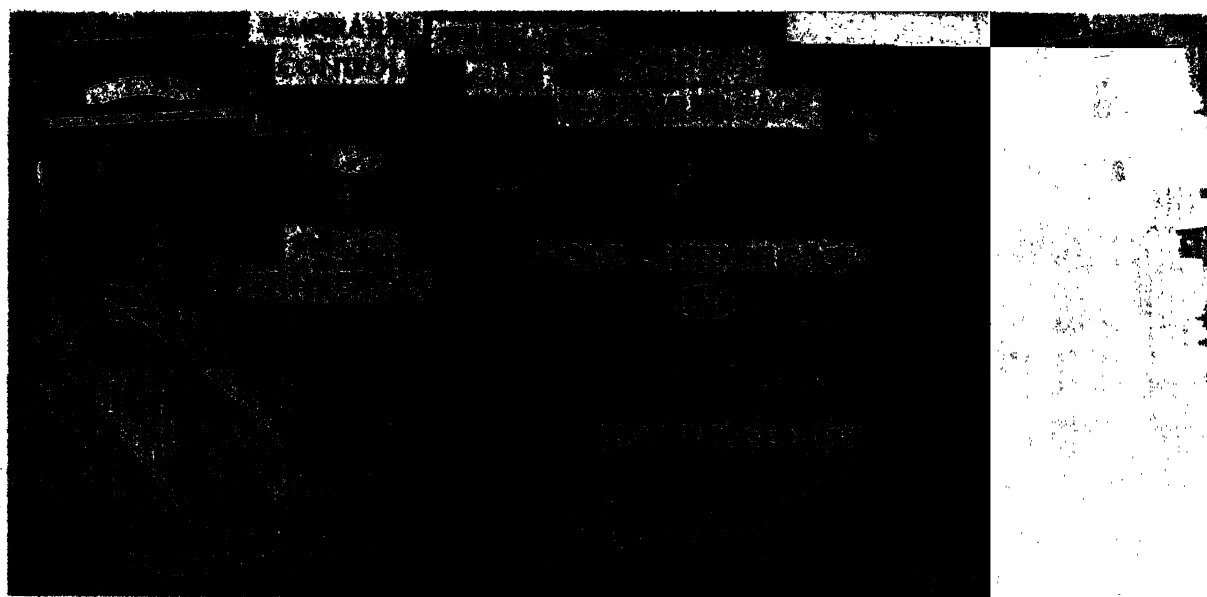

FIGURE 44. REMOVAL AND SERVICE OF LEVEL, GAGES AND CONTROLS
1. Refer to Fig. 44 and remove the hot oil pressure gage, and lines and fittings.
1. Refer to Fig. 44 and install the hot oil pressure gage, and lines and fittings.
- a. Removal. Refer to Fig. 44 and remove the hot oil temperature gage.
- c. Installation. Refer to Fig. 44 and install the hot oil temperature gage.
- a/ Removal. Refer to Fig. 44 and remove the liquid level sight gage.
- c. Installation. Refer to Fig. 44 and install the liquid level sight gage.